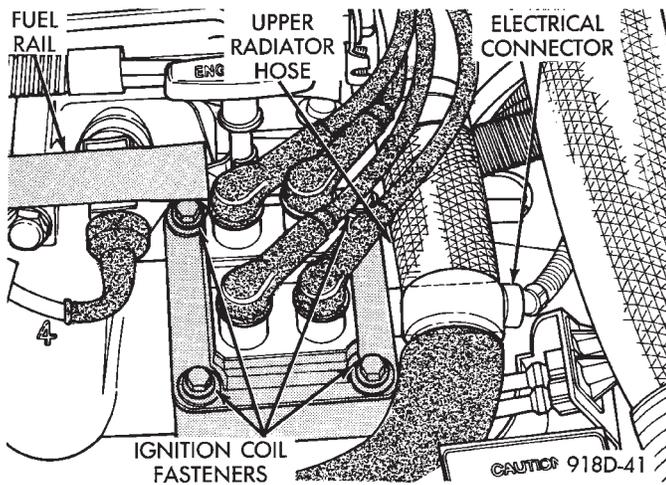

Fig. 15 Ignition Coil Service—Turbo III
(1) Remove spark plug cables from coil (Fig. 15).